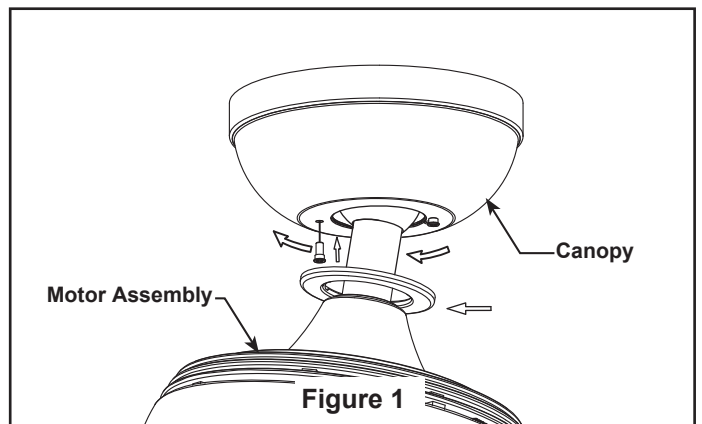

Figure 1
1. Assemble canopy by rotating key slot in canopy over shoulder screw in hanger bracket and care not to pinch the wires. Tilt the motor assembly to the side to have more space to tighten shoulder screws. Fully assemble and tighten second shoulder screw that was previously removed. (Figure 1)
1. Carefully slide the blade through the slot as shown. Make sure the notch of blade is fully seated into the hex socket screw. Securely fasten the eight blades to the motor housing using the blade plates and button head screws. (Figure 1)
1. Remove one of the three screws in the support bracket at the bottom of the motor assembly. Retain the screw for later and slightly loosen the remaining two screws. (Figure 1)